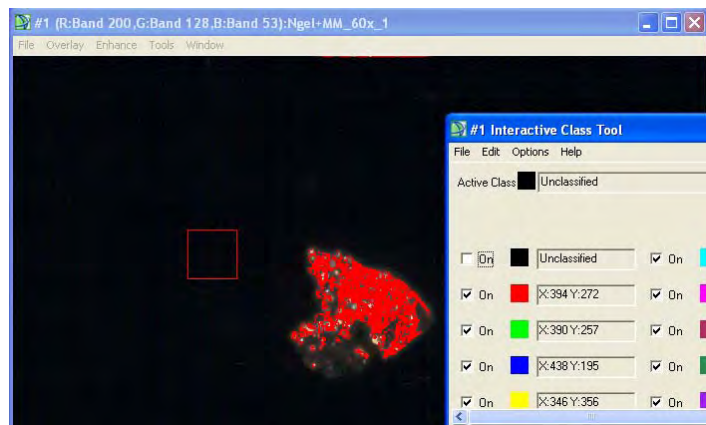

Figure 33. Classification spectra unified to a single color
- c. The classification file will automatically update to a single color (see Figure 33)